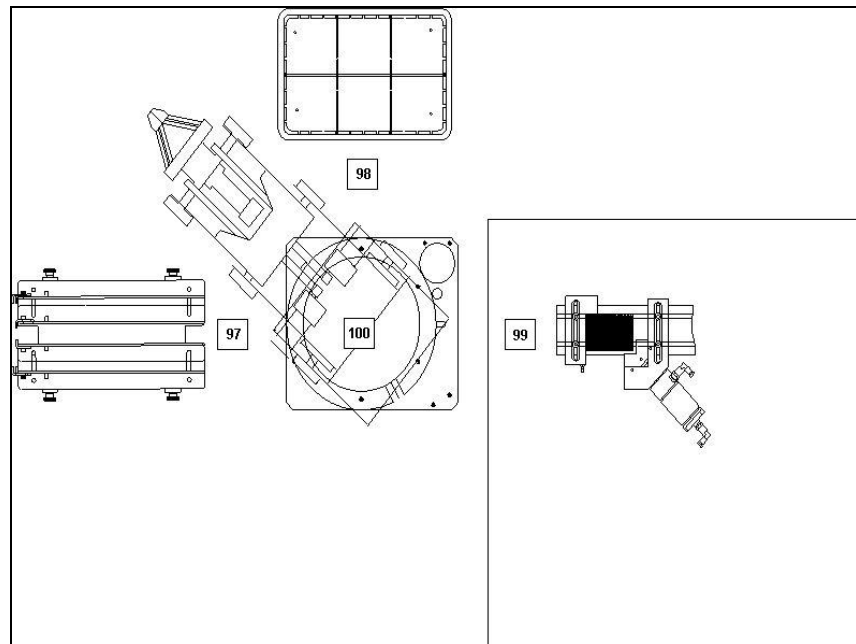

Figure 5-2
- 2 Refer to Figures 5-2 and 5-3. Without moving any of the axes, record the position of the **robot** from the TP as position #100.